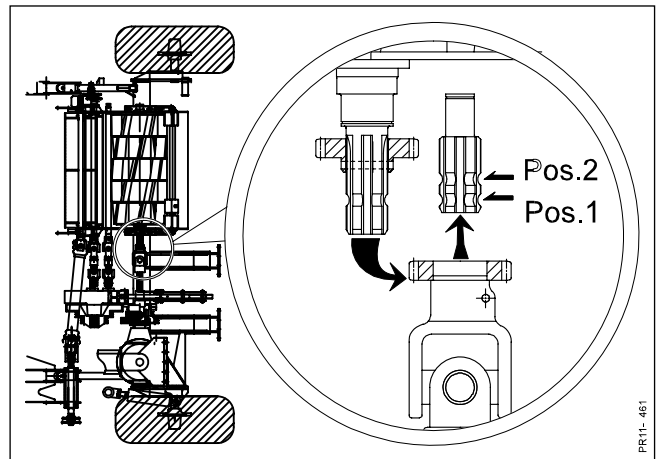

Fig. 4-16
**Fig. 4-16** opposite direction.